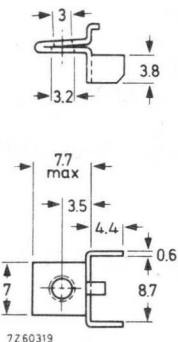

Fig. 3a. Metal mounting bracket
- metal bracket for rail or panel mounting, catalogue number 4332 026 00750, Fig. 3a